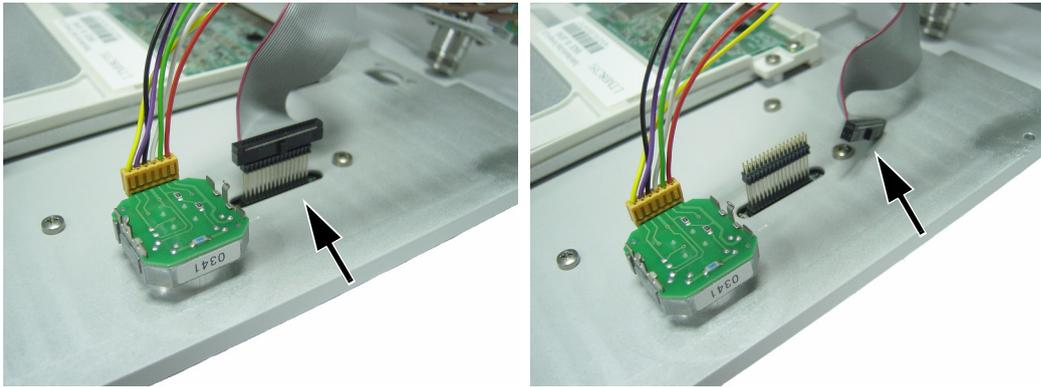

Figure 4-28. Keypad Cable Connector
3. The keypad bezel is held to the case with 3 screws on the inside (visible in Figure 4-28). Using a screwdriver, remove the screws while supporting the metal keypad bezel, and then carefully remove the bezel. This exposes the keypad rubber membrane.